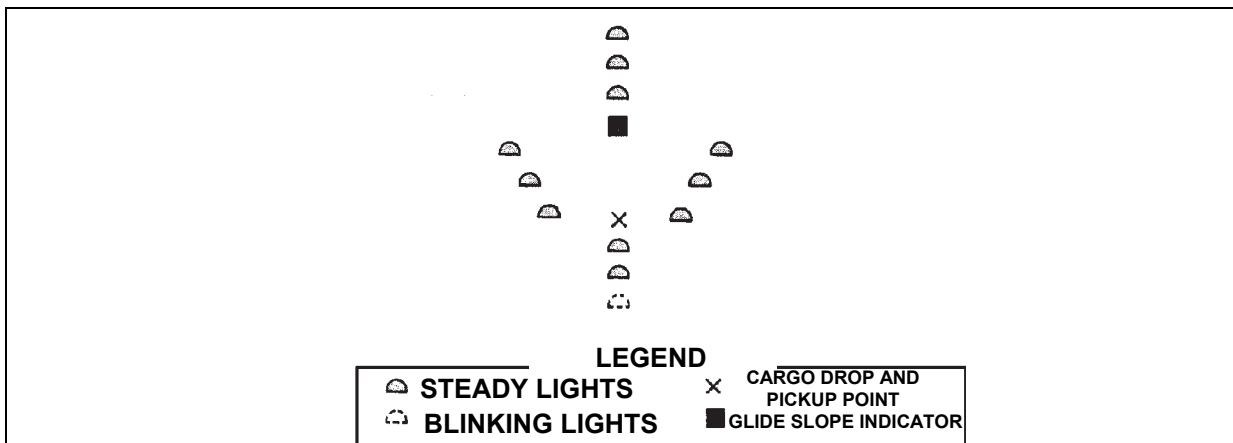

Figure 4-15. GAIL System
- Glide Angle Indicator Light (GAIL).** (USMC) The GAIL system is used whenever possible (figure 4-15). The GAIL is positioned to project its beam along the preferred direction of approach. The glide path angle must provide clearance over the highest obstacle along the avenue of approach. Glide path angles from 3 to 8 degrees are common and acceptable. Angles greater than 8 degrees are considered too steep and could cause difficulty in maintaining the aircraft on the glide path. Since the GAIL has a narrow beam width, assist the pilot in finding it by placing additional lights in the landing site. Remember, the preferred direction of approach is into the wind. However, when the landing site size does not allow the glide path to be directed into the wind without exceeding 8 degrees, the GAIL system should be shifted left or right to a glide path of less than 8 degrees. Approach azimuth and glide path angle information are transmitted to the pilot in the briefing. When adjusting the GAIL scope, make sure that it is far enough away from the front marker lights (normally 30 meters) to give the pilot enough distance to maneuver over the landing point. It may be necessary to secure the GAIL scope to the ground using sand bags or tent pins, so that it is not blown over by the helicopter rotor wash.